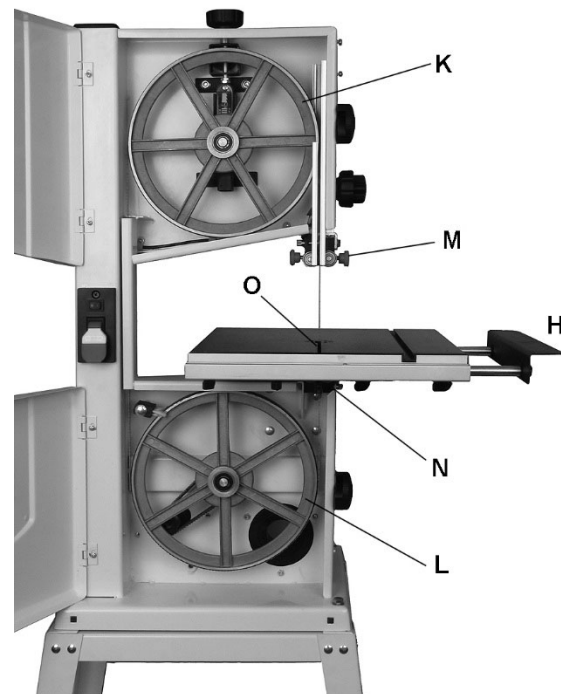

Figure 11
2. Open upper and lower doors (Figure 11) by rotating the knobs.
Refer to Figure 11:
The blade must be slightly tensioned (see sect. 9.4) before adjusting blade tracking. Make sure blade guides and bearings (M,N, Figure 11) do not interfere with blade. If blade tracking is required, blade guide adjustment is described in sect. 9.7.